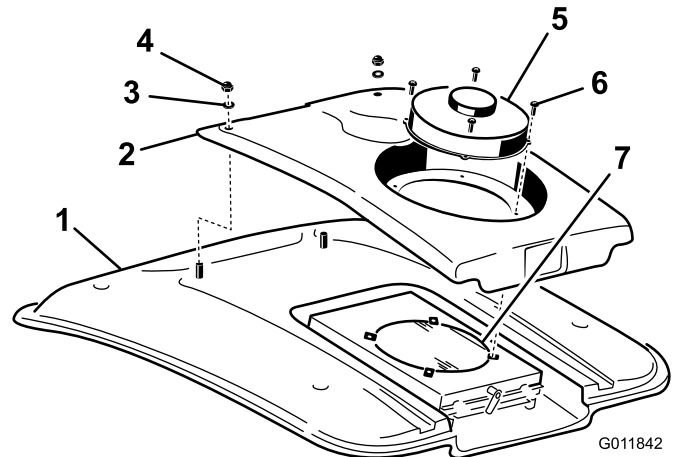

Figure 73
2. Remove the 4 screws securing the fan and the condenser cover to the fan mount (Figure 73).
4. Remove the two nuts and washers securing the front of the condenser cover to the cab roof (Figure 73).
8. Clean the air conditioning condenser thoroughly with compressed air (Figure 73).